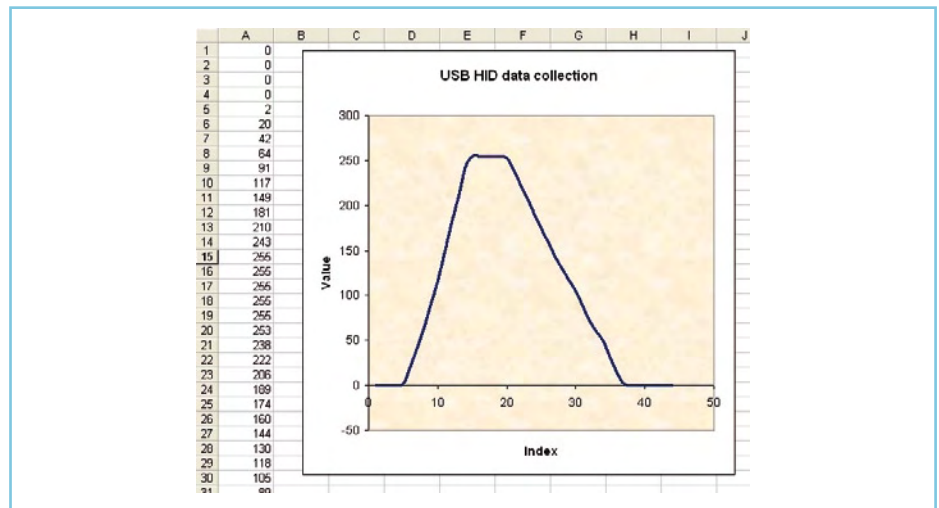

Figure 4. Example of collected data represented in a chart.
5. The data can now be processed into, for example, a chart (see **Figure 4**).